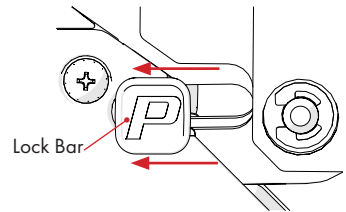

Figure 1
STEP 2 Use **Pull Cord** to lift trolling motor up and over the bow. Once the trolling motor is in its properly deployed position, the **Lock Bars** will slide into place. **FIG 1**